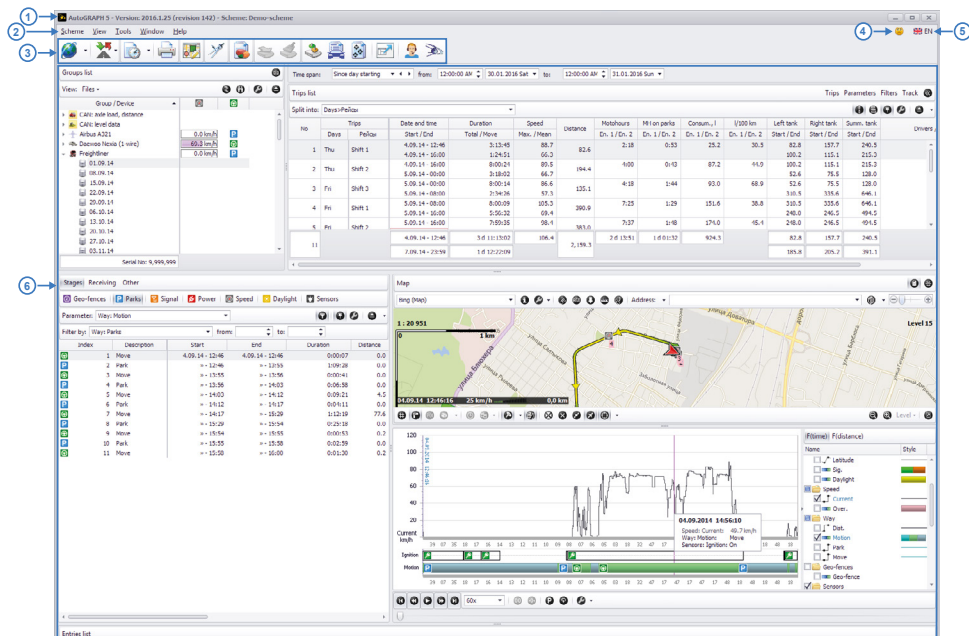

Fig. 8. Program interface.
Menu bar (**Fig. 8, item 2**) allows quick access to the main program functions. To access the desired menu, left-click on this menu and select the required command in the list which appears. The menu bar commands are detailed below.